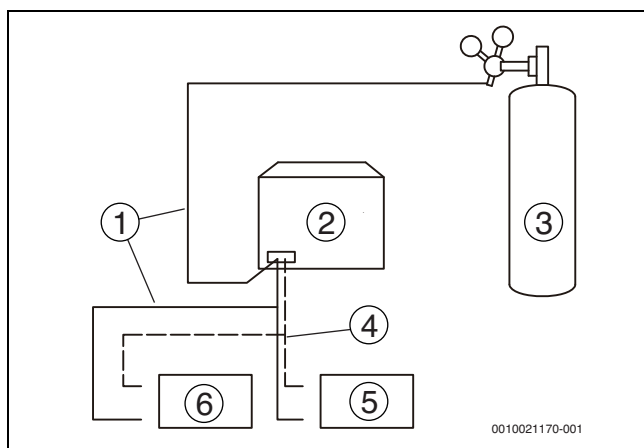

Fig. 13
4. Use blind plugs to block all liquid (gas) side openings, except for the opening at the indoor unit which is furthest from the outdoor units ("Indoor unit A" in Figure 13).